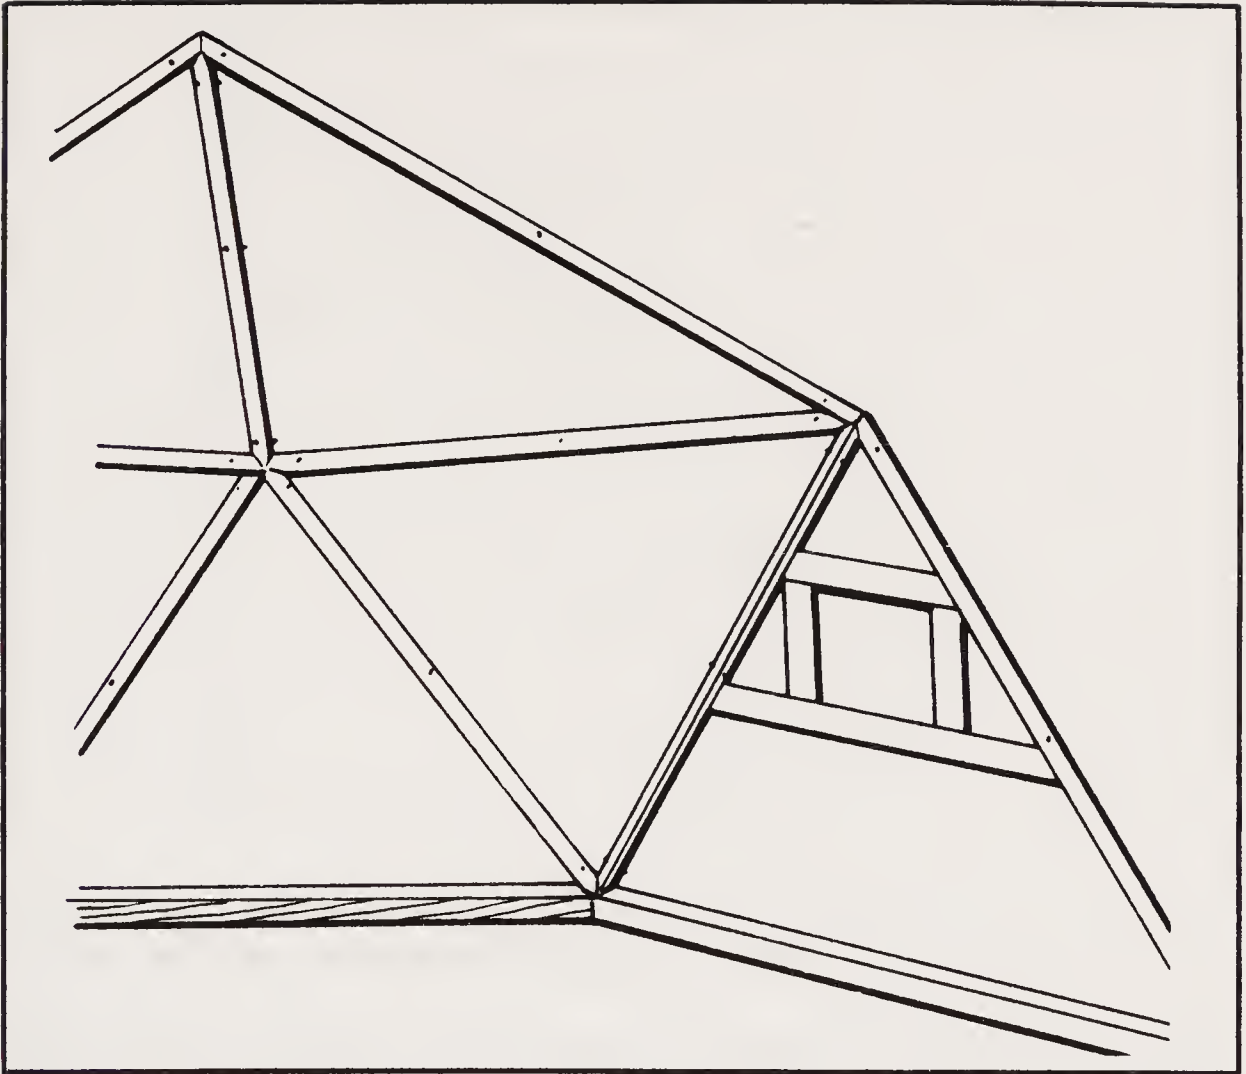

Fig. 2-76. Assembly details. Bolt a regular A triangle to the second pentagon (courtesy of Peter Reimuller Co.).
- ☐ Bolt the other "A" triangle, with accessories frame, to the third pentagon (Fig. 2-76).